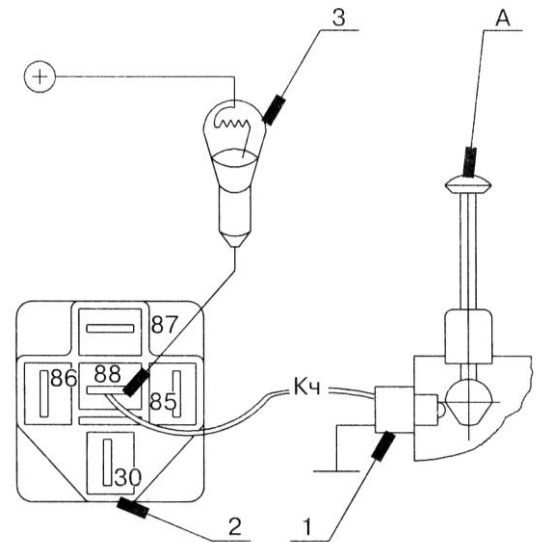

Fig. 11. Checking the integrity of the interlock circuits to the switch on the gearbox casing:
a) check the integrity of the circuit from the interlock relay (K6) to the switch SA11 on the gearbox casing. To do this, connect the test lamp between the terminal “+” of the storage battery and the terminal “88” of the relay (wire K4), (Fig. 11). When it will be done,